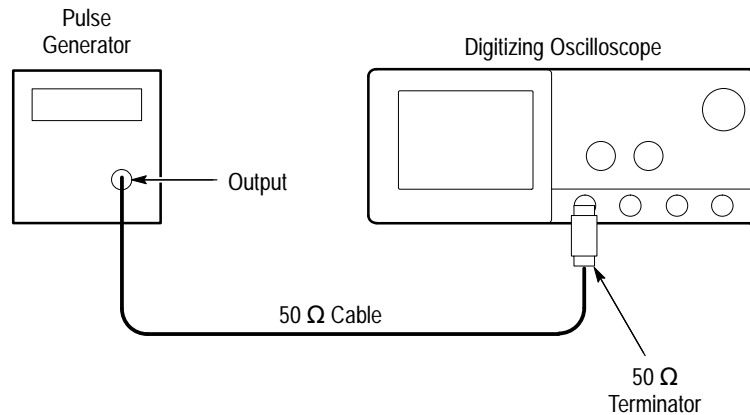

Figure 1–37: PG502 Setup for Sync Duty Cycle Test
- Connect the pulse generator (PG502) through a 50 Ω cable and a 50 Ω terminator to the oscilloscope CH1 input. See Figure 1–37.
- Turn the pulse generator **OUTPUT (VOLTS)** control until the signal on the oscilloscope shows a one division negative going pulse. See Figure 1–38.